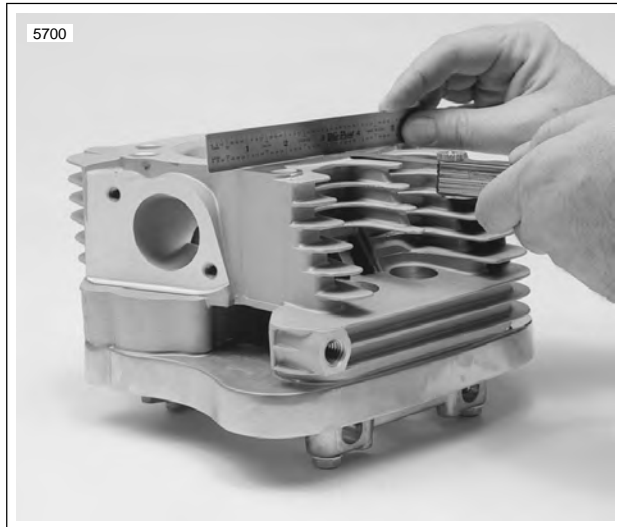

Figure 3-17. Checking Gasket Surface
18. See Figure 3-17. Check head gasket surface on head for flatness. Machine or replace any head which exceeds SERVICE WEAR LIMIT of 0.006 in. (0.152 mm).